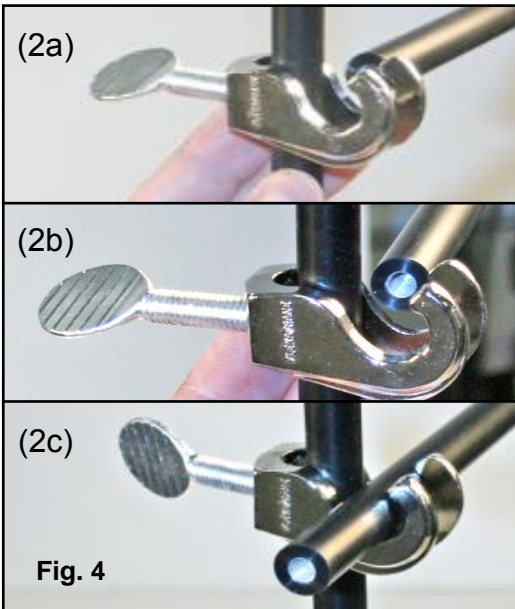

Fig. 4
The horizontal Grid Bars are attached to the vertical Grid Mount Bars / Grid Bars with a Mounting Clamp (D) (see inset photos 2a thru 2c) Use two hands for securing the horizontal Grid Bars to the vertical Grid Mount Bars/ Grid Bars with the Mounting Clamp; Tighten Thumb Screw to secure. (see Fig. 4)